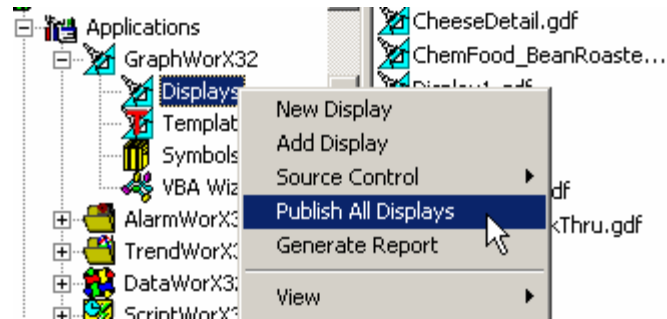

Figure 4.25. Publishing All GraphWorX Displays in a Project
- Right-click on the **Applications/GraphWorX/Displays** tree and select **Publish All Displays**, as shown in **Figure 4.25**. In this case, both the **Publish Web Page** field and the **Based on Source File** field in the Web Publishing Wizard dialog are read-only and contain the text "(Display Name).htm" and "(All GraphWorX Displays in Project)," respectively. The browse (...) button is also disabled.